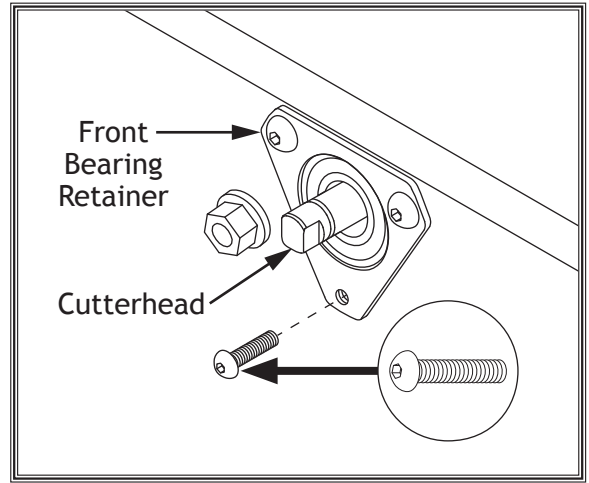

Figure 15. Removing button head cap screw below cutterhead.
7. **W1879 Only:** Remove (1) M6-1 x 12 button head cap screw from bottom of cutterhead front bearing retainer (see **Figure 15**).